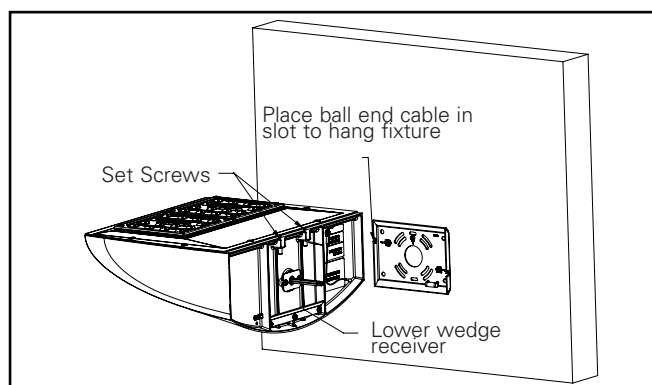

Figure 11.
3. Hang the fixture from the wedge plate using the ball ended cable located on the back of the fixture. (Figure 11)